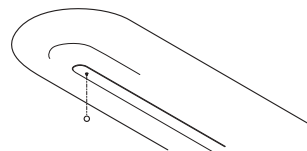

Figure 8
10. Align the holes in the diffuser and trim strip with the carriage bolts hanging from the base. Slide the diffuser upward against the ceiling and secure in place with Ball nuts. **See Figure 8.**
Voir la figure 8.